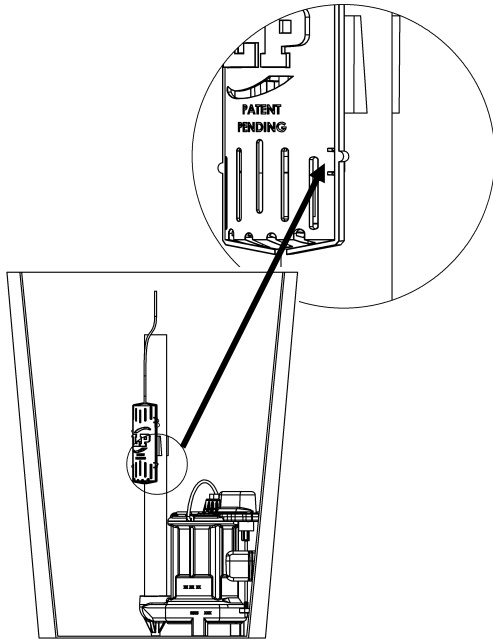

**Figure 3**
- 4) Route the sensor cable out of the sump pit and connect it to the bottom of the alarm enclosure. See **Figure 3**.
- 4) Route the sensor cable out of the sewage pit and connect it to the bottom of the alarm enclosure ensuring it does not interfere with the operation of the primary pump's float. See **Figure 3**.
- 1) Connect the supplied power adapter to the alarm unit as shown in Figure 3. Plug the power adapter into the wall receptacle and verify that the green "power" indicator illuminates.
- 2) Install the 9V battery as shown in **Figure 3 (previous page)**. Paying attention to polarity, the battery should gently push into place and latch on the ledge at the bottom of the battery chamber.